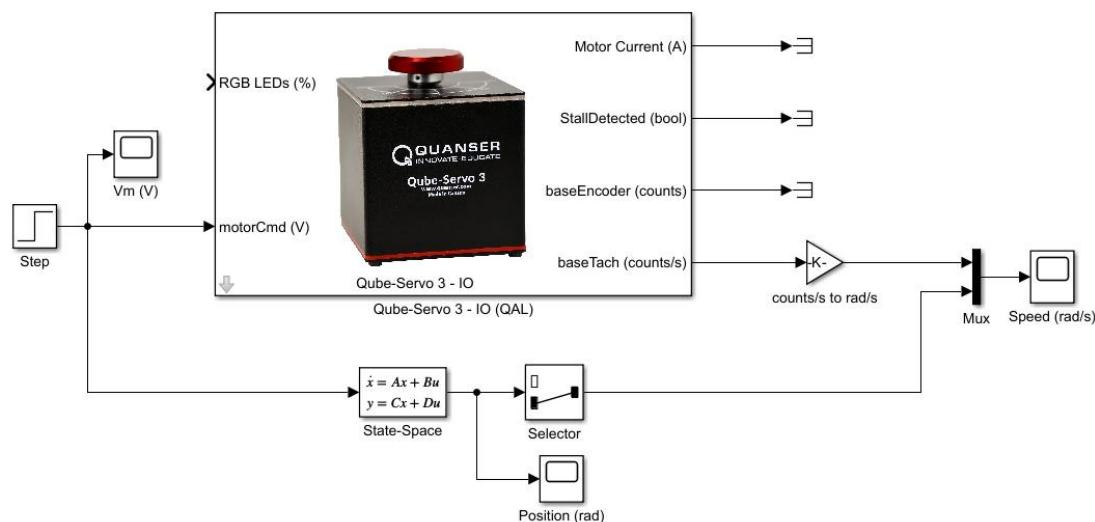

Figure 1: A 1V step input to a Qube-Servo 3 and its state space representation.
In this lab, the goal is to create a state space representation of the DC motor equations of motion. The calculated representation will then be compared to the physical response of the Qube-Servo 3. The Simulink model shown in Figure 1 applies a 1V step to the Qube-Servo 3 and the state space model of the servo. The measured and modeled speed responses are plotted in the same scope for comparison.
1. Open `qs3_ss_model.slx` as shown in Figure 1 and modify the tachometer gain. The model should apply a 5V step to the Qube-Servo 3 and its state space model. Start from the model in the Filtering Lab if the model was not provided.